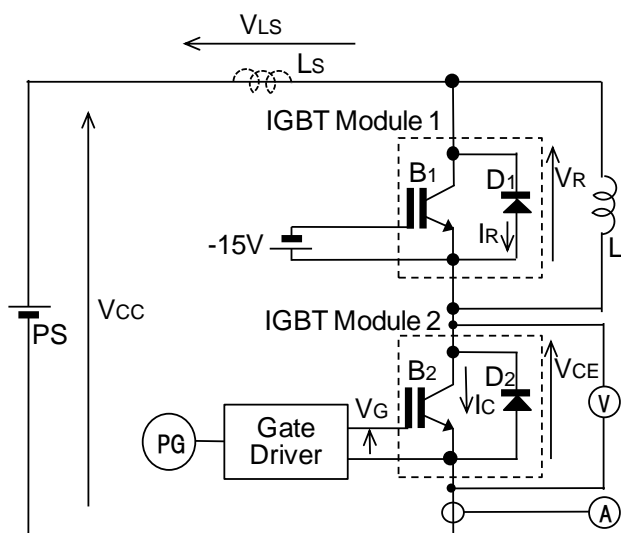
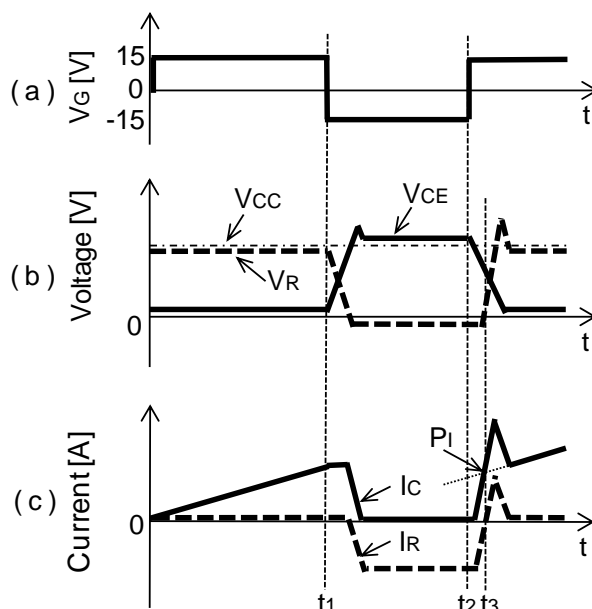

Fig.1. One phase circuit of inverter
Fig.2. Operation pattern for measuring L_s
In evaluating the characteristics of IGBTs, stray inductance of the test circuit is a major factor to be considered. This document presents the measurement method of the stray inductance (inclusive of the module's own internal inductance). In evaluation of IGBT, one phase circuit of inverter, as shown in Fig. 1, is generally utilized. The circuit is basically a half-bridge topology, composed of two series connected IGBT modules, a power supply (PS) and an inductive load (L), where the total stray inductance of the main circuit is symbolized as L_s .
The operational timing pattern of the circuit for measuring L_s is given in Fig.2 (a). The voltage and current waveforms of the pattern are shown in Fig.2 (b) and (c) respectively. In accordance with the pattern, IGBT B_2 , i.e. Module 2, is operated. From $t = 0$ to t_1 the state of B_2 is ON and current I_c
Therefore, L_S can be specified using the measured voltage V_{CE} and current I_c as arranged in Fig.1. The voltage meter must be connected to sense terminals of IGBT module in order to accurately measure the value of L_S including the internal inductance of the module. The time point symbolized as by t_3 in Fig.2 (c) can be detected through the intersection point P_1 by checking the waveform of I_c .